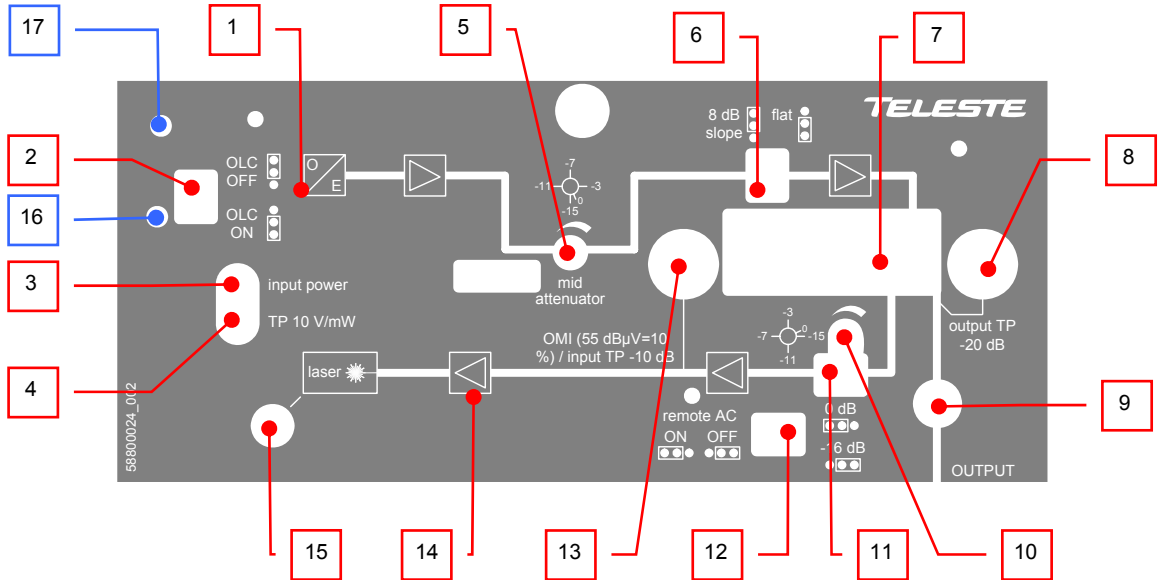

Figure 4. CXE880 front panel
The supply voltage of the remote powered amplifier (26...65 V AC or  $\pm 30...90$  V DC) can be fed through the RF output port (Figure 4 pos. 9). Make sure the remote powering jumper (Figure 4 pos. 12) is in correct position for remote powering. Refer to Figure 4. External power can also be fed through the amplifier into the network by moving remote powering jumper to "ON" position. Maximum feed-through current is 2 A.
When equipped with an optional status monitoring card the node continuously monitors internal temperature, local and remote supply voltages, optical input power, laser current, lid status and statistics of power failures. Measurement results and status information is transmitted using 10.7 MHz FSK data link to e.g. HDO203 data receiver. The two first mentioned parameter statuses are also indicated with the LED indicator (Figure 4 pos. 17). The following table further describes behaviour of the LED. During the power-up sequence the LED will display yellow light for a short period of time to indicate that the LED is functional. The LED blinking indicates that packets are sent on the FSK link.
Return path attenuation mode jumper (Fig. 4 pos. 11)
Remote powering jumper (Fig. 4 pos. 12)
Optical input power can be measured from the optical power DC voltage test point (Figure 4 pos. 4). The test point DC voltage is directly proportional to optical input power in mW e.g. 10 V corresponds to 1.0 mW average optical power for 1310 nm. Table below shows the correct measurements at the test point using a 1310 nm or 1550 nm transmitter.
The mainboard provides also a LED indicator (Figure 4 pos. 3) which gives a visual indication of the optical input power.
3. Optical Level Control (OLC) circuitry provides gain control that compensates for changes in input level caused by external variations. The available gain reserve is factory-set for optimum operation. If needed the output level can be adjusted with the midstage attenuator. You can however, set an internal jumper (Figure 4 pos. 2) to disable the OLC. This enables you to operate the CXE880 optical receiver at full gain for applications that do not require gain stabilization.
5. Use the response mode jumper (Figure 4 pos. 6) to select the midstage slope. Available options are "flat" or "8 dB sloped".
A diplex filter (Figure 4 pos. 7) is selected during configuration according to the preferred frequency split.
The return transmitter is aligned in production eliminating the need for any user adjustments. The level of return signal can be measured from the optical transmitter's OMI test point (Figure 4 pos. 13). In shielding cover of the CXE880 is described the fixed RF driving level at the OMI test point that gives 10% OMI. The return signal level should be adjusted to match this level. Table below shows the RF drive levels for different OMIs. The signal level is adjusted with the return path attenuator (Figure 4 pos. 10). The adjustment range is 15 dB. The attenuation can be approximately doubled with the return path attenuation mode jumper (Figure 4 pos. 11). Thus, it is possible to achieve higher attenuation with a maximum amount of 31 dB.
The mainboard provides also a LED indicator (Figure 4 pos. 15) which gives a visual indication of the laser bias current.